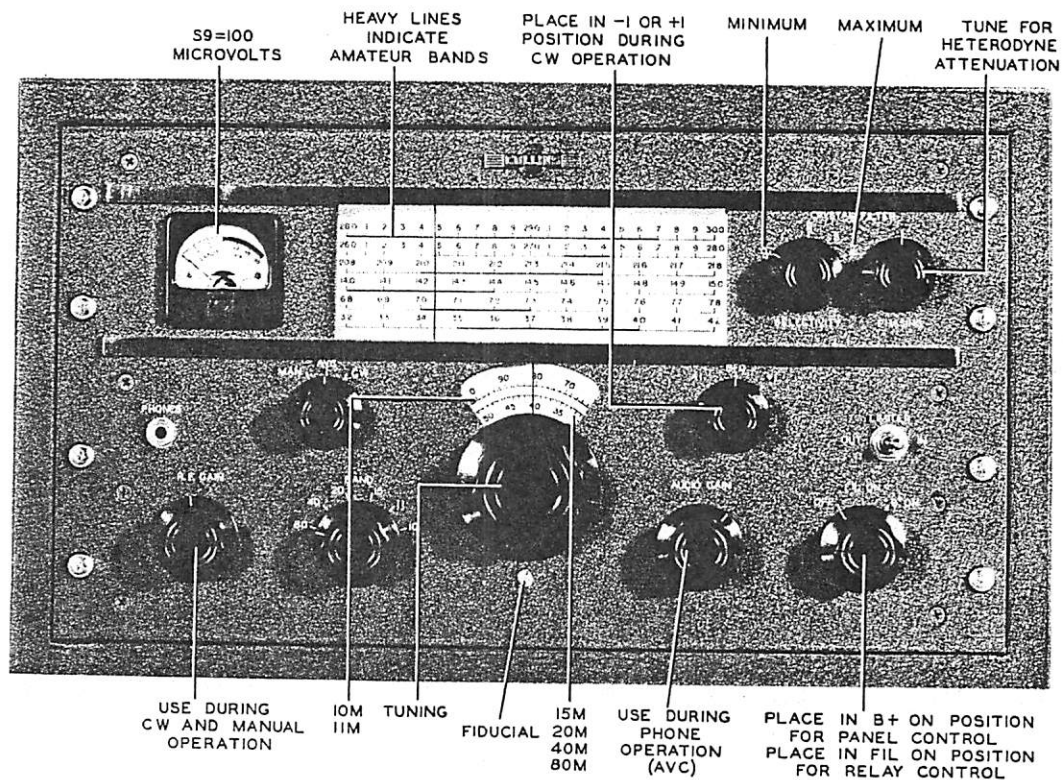

FIGURE 4-1 OPERATING CONTROLS
- 4-3. OFF - FIL ON - B+ ON. - See figure 4-1. This knob controls the plate and filament power in the receiver. In the OFF position this control turns the receiver completely OFF. In normal operation the control is turned to the B+ ON position. During stand-by, the control can be turned to the FIL ON position thus disabling the receiver but allowing the tube filaments to remain heated.
- 4-14. OPERATION. - While the 75A receiver contains many new and improved principles and circuits, a simplicity of operation found in few other receivers has been obtained. Familiarity with the FUNCTIONS OF CONTROLS, paragraphs 4-2 through 4-11 and reference to figure 4-1 will enable any amateur to operate the receiver. For those not familiar with the amateur bands, the following paragraphs are written.